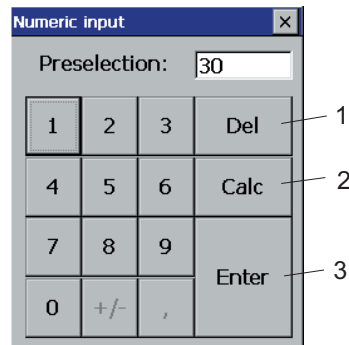

Fig. 33 Input keyboard
You can correct an incorrect entry by pressing the *Del* key (Fig. 33/1).
Calculator functions for calculating the fold length can be activated by touching the *Calc* key (Fig. 33/2).
5. Touch the *Enter* key (Fig. 33/1) when the entry is completed.